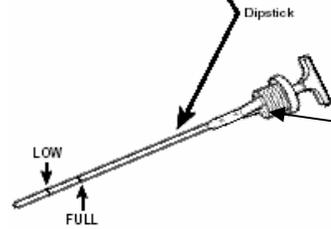

Figure 11
**Smoke Solution Replacement Instructions:** The entire procedure is performed from the dipstick tube on top of the tester. See figure 11.